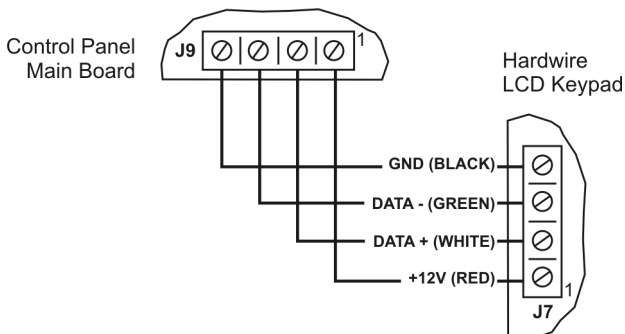

Figure 2.7: Connections for Hardwire LCD Keypad
6. Connect the terminal block on the keypad to the appropriate terminal block on the control system's main board as shown in Figure 2.7.